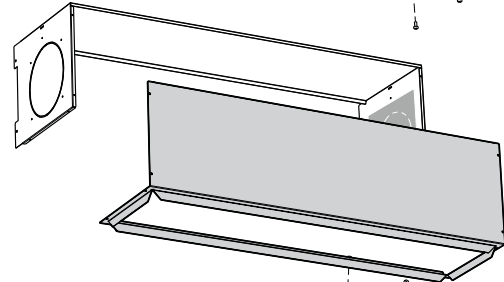

fig.9
- Rotate the rectangular flange downwards and fasten it using the screws removed at the previous section (fig.9)